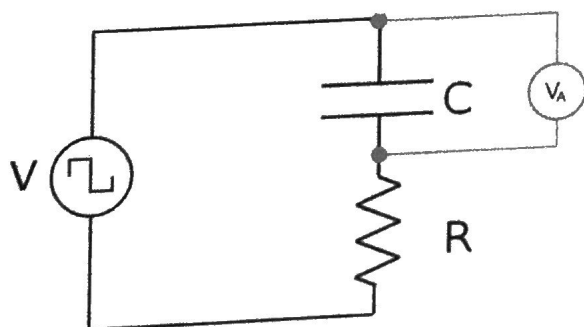

Figure 2. RC Circuit Diagram
1. Construct the circuit shown in Figure 2. The voltage source is Signal Generator #1 on the 850 Universal Interface. $C = 3900 \text{ pF}$ (capacitor C1 on the UI-5210 board) and $R = 47 \text{ k}\Omega$ (resistor R1 on the UI-5210 board).